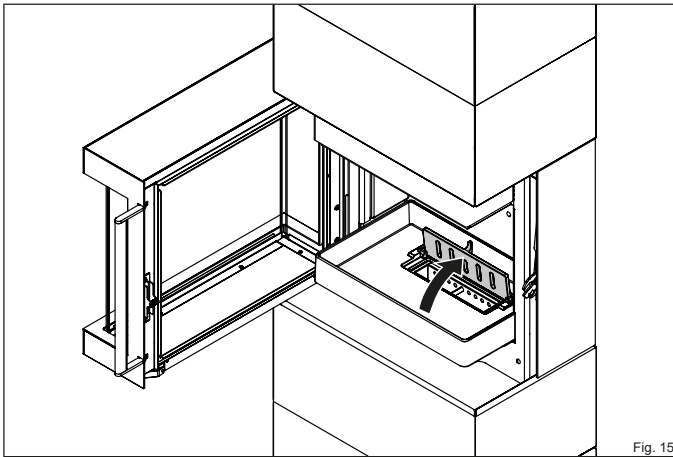

Fig. 15
- ▶ **Open the fire grate flap (Fig. 15)**
- ▶ **Open the fire grate flap (Fig. 15).**